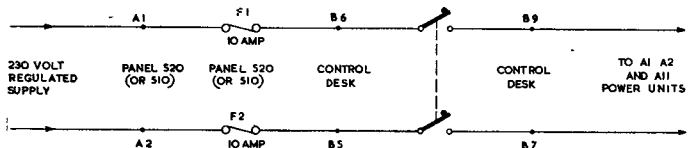

Fig. 56. Mains supply switch
**157.** Fig. 56 shows the pin connections for the mains supply through the mains supply switch to the power units.